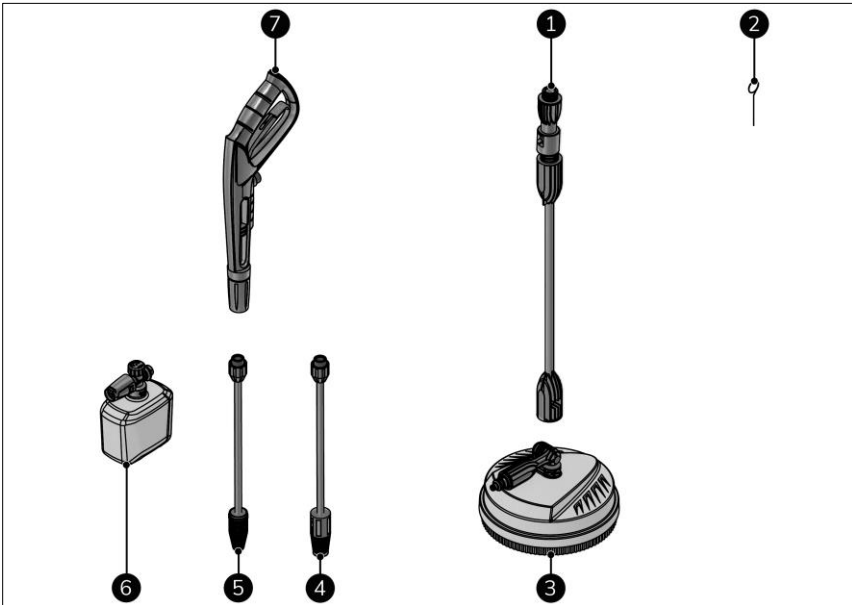

Figure 6
This device contains the following accessories (Figure 6):
1. Hold the jet gun (Figure 6, pos. 7) with both hands.
2. Place the floor cleaner (Figure 6, pos. 3) on the surface to be cleaned.